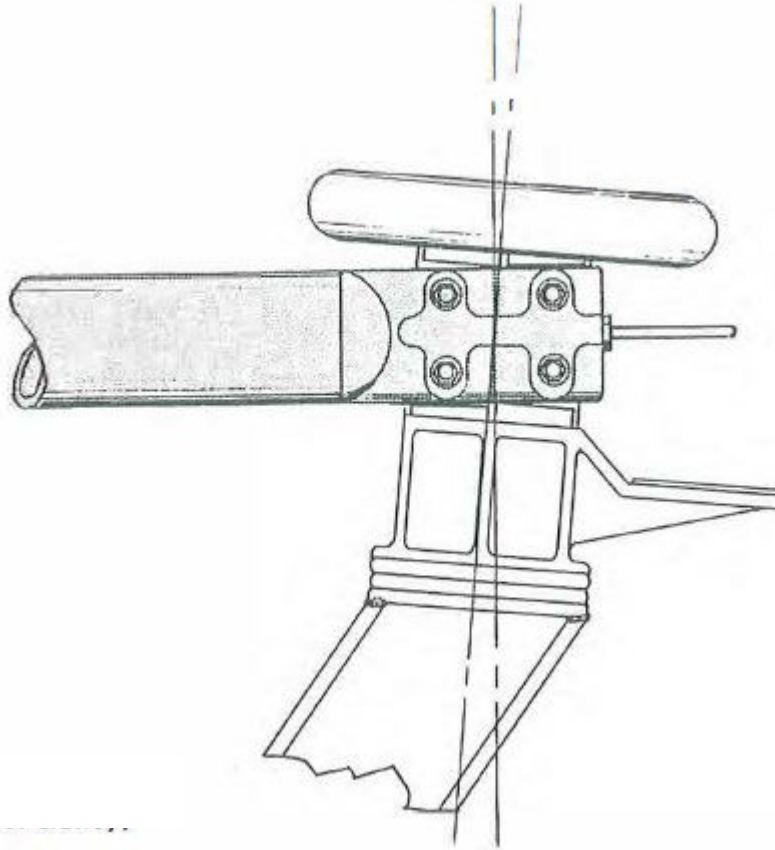

**Figure 13: Pre-loading**
- 2.3. **Figure 13** and shorten both jack screws "A" by four flats, and lengthen both jack screws "B" by four flats on both jaw stacks. This procedure establishes proper preload against insulator deflection, and is essential for switch operation. Note the relationship of the parts in
- 2.4. **Figure 13**; the jaws must be loaded toward the blade.